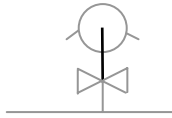
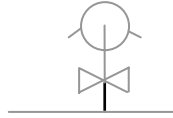

Figure 1
Figure 2
1. **Hydrants:** All hydrants should have valves. The water line serving the hydrant should be drawn from the center of the hydrant to the center of the valve (Figure 1). There should then be a line drawn from the valve to the main running along the street (Figure 2). The water main should be broken at the tie in point. Thus, resulting in three endpoints being snapped to one another (Figure 3).